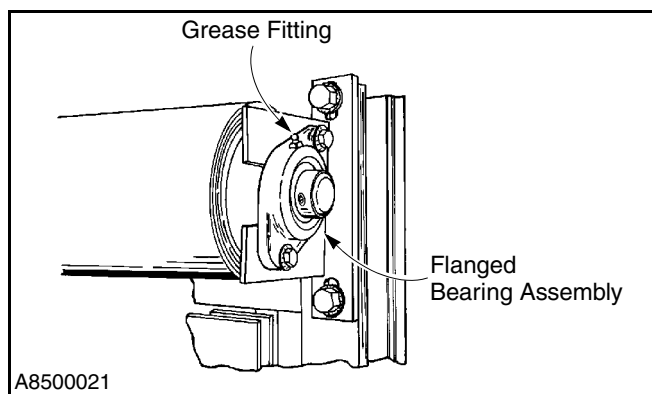

Figure 19
1. **Flanged Bearing:** The fabric roll is supported by a flanged bearing located on the roll shaft end opposite the motor/brake assembly. The flanged bearing is equipped with a grease fitting. Recommended lubrication is a lithium-base grease conforming to NLG1 Grade 2 standards. It should be medium viscosity, low torque, with an operating temperature range of -30°F to $+200^{\circ}\text{F}$. (See Figure 19.)